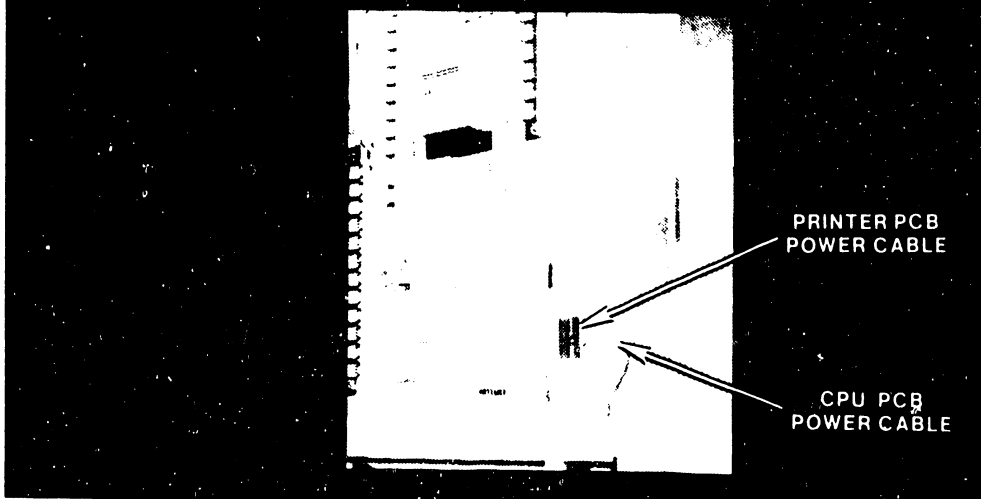

FIGURE 6 POWER CABLES - PRINTER AND CPU BOARDS
3. Disconnect the two power cables from the printer and CPU PC boards (see Figure 6).